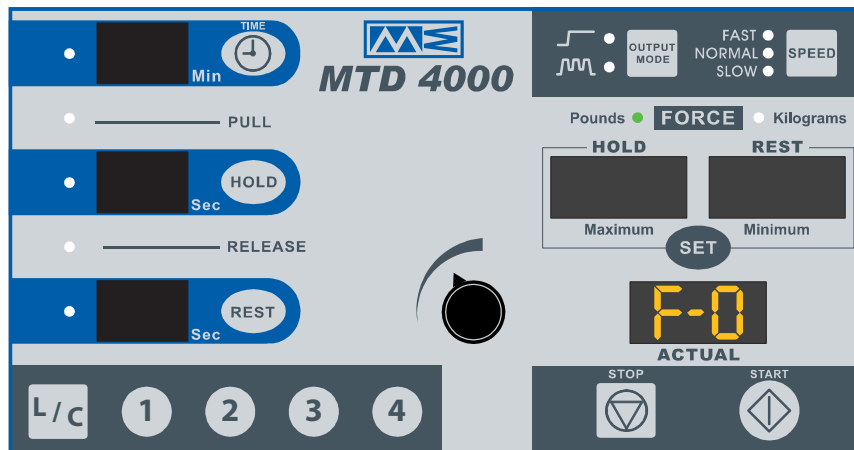

Figure 5.3— F-0 Controls and Displays
- Continue to press and hold down the set button at least 3 seconds. The system will enter “Factory Setting Mode” and display “F-0” in the “Actual” display window as shown in Figure 5.3.